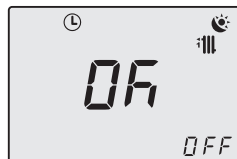

Fig. 2.22
Press key 17 briefly to save the values entered and upon leaving the menu, the display will indicate **OK** to confirm (Fig. 2.22).